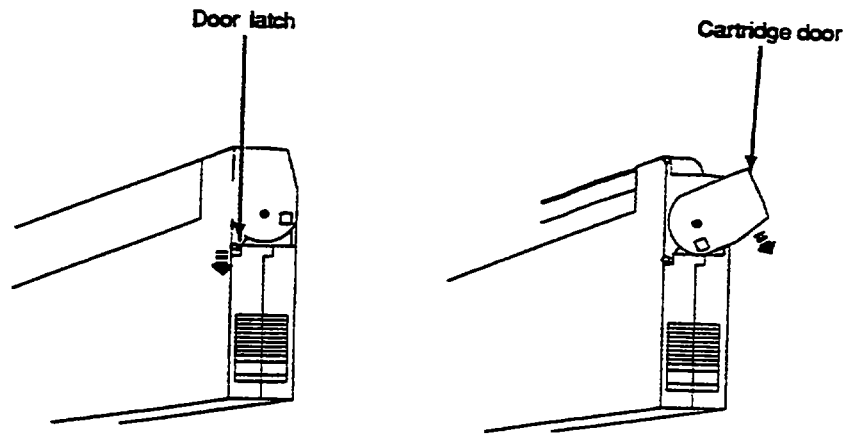

Figure 3-4 Tape Cleaning Cartridge
3. Hold the cleaning cartridge as shown in Figure 3-4.
4. Open the cartridge door by first pressing down on the door latch located on the side of the cartridge (see Figure 3-4). With the door latch held down, push the cartridge door towards the front of the cartridge.